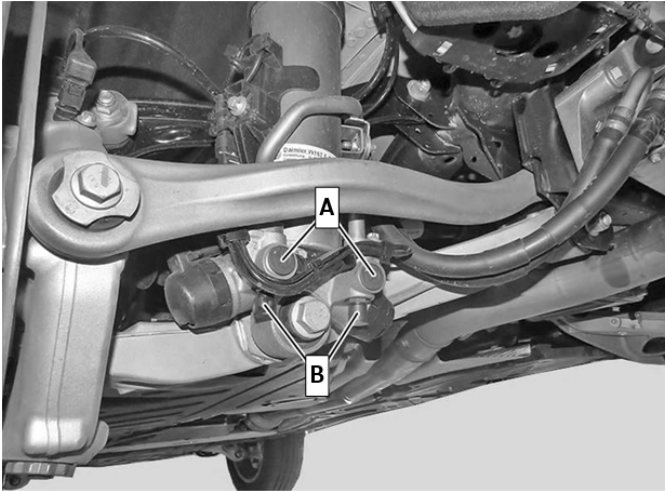

Figure 1
- i** Figure 1 shows the suspension strut of the left rear axle.